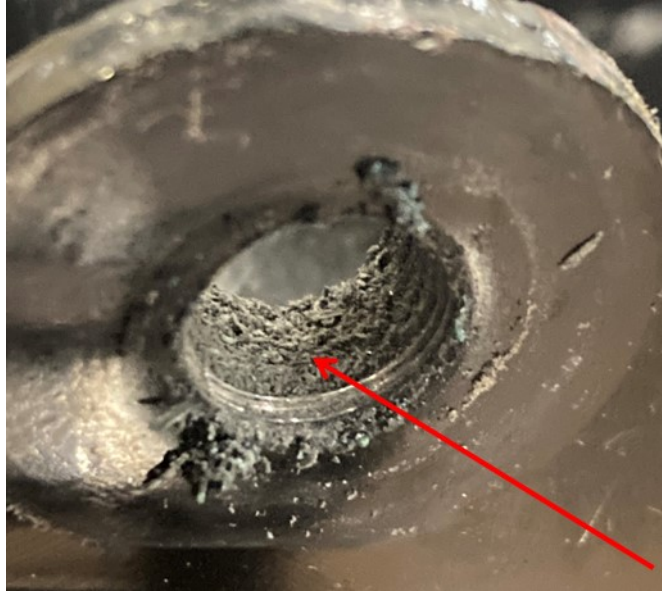

Fig. 5
7. Remove threadlocker debris from incorrect bolt. The incorrect bolt can be used to remove debris within the threads by reinstalling and removing multiple times. (Fig. 5)
13. Remove threadlocker debris from incorrect bolt. The incorrect bolt can be used to remove debris within the threads by reinstalling and removing multiple times. (Fig. 5)